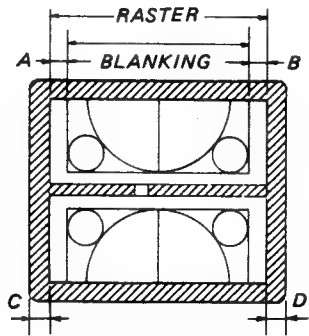

Fig. 31-1
- V. DELAY switch IN (IN)
- 3. Adjust RV1 and RV7 on the DA board so that the raster can all be seen by RV1 and RV7 as shown in Fig. 31-1.
- 4. Adjust RV26 on the DA board so that the out side portions of the raster become equal to at the right and the left sides as shown in Fig. 31-1.